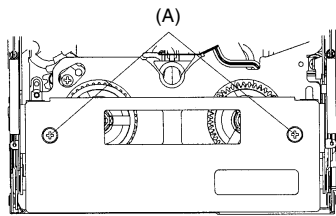

Fig.1
- (1) Apply 3 to 4V DC to the loading motor to establish the standby mode. When removing the cover from the cassette controller, remove the two screws (A). (See Fig.1.)